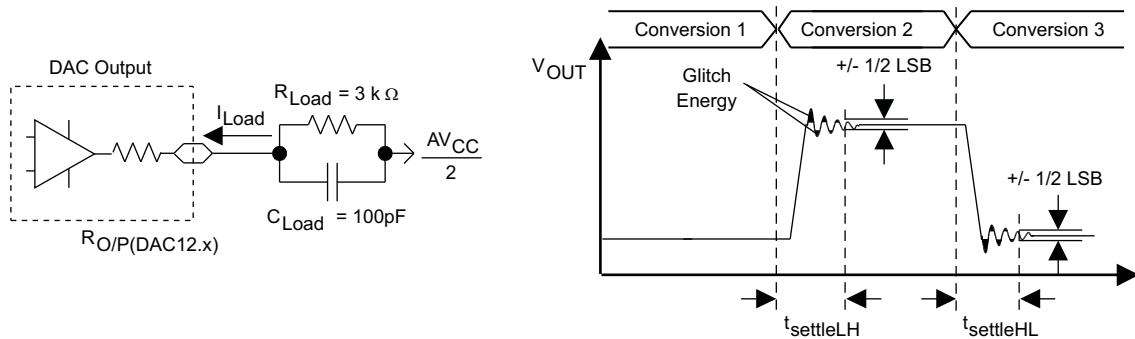

Figure 5-24. Settling Time and Glitch Energy Testing
$V_{ref} = V_{CC}$ , DAC12IR = 1, over recommended ranges of supply voltage and operating free-air temperature (unless otherwise noted) (see Figure 5-24 and Figure 5-25)
- (1)  $R_{Load}$  and  $C_{Load}$  connected to  $AV_{SS}$  (not  $AV_{CC}/2$ ) in Figure 5-24.
- (2) Slew rate applies to output voltage steps  $\geq 200$  mV.